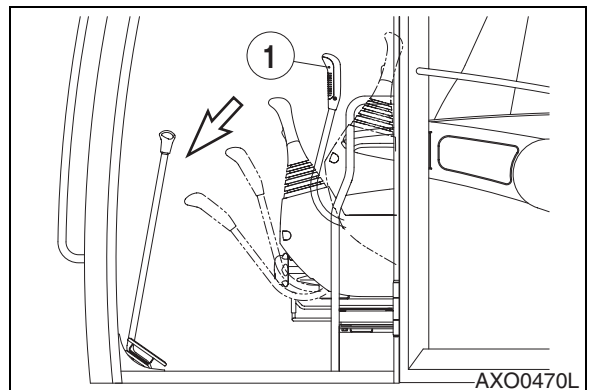

Figure 15
3. Set safety lever (1, Figure 15) on "UNLOCK" position